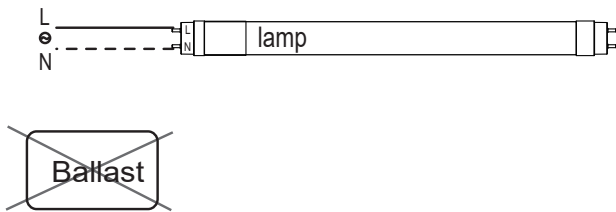
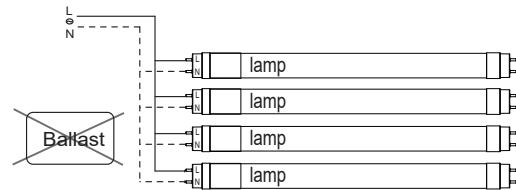

Fig: 8
Fig: 9
4. If installing a single tube refer to Fig. 8. If connecting multiple lamps, connect separate neutral wire into "Neutral out" from primary source lamp holder and connect that wire into "Neutral in" on the adjacent tube. See Fig. 9 below.